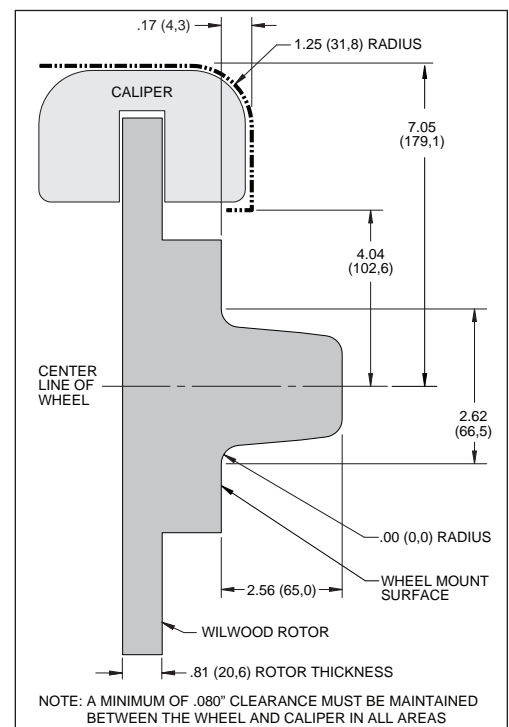

Figure 2. Wheel Clearance Diagram
- Review the wheel clearance diagram (figure 2, page 3) to verify that there is adequate clearance with the wheels you will be using with the installation.
- Verify wheel clearance, see Figure 2.